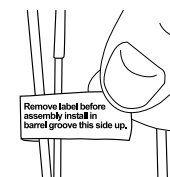

Figure 4
- 11 Be sure the cable slide is properly attached to the power cables. If present, remove the protective label from the cable slide (See Figure 4).